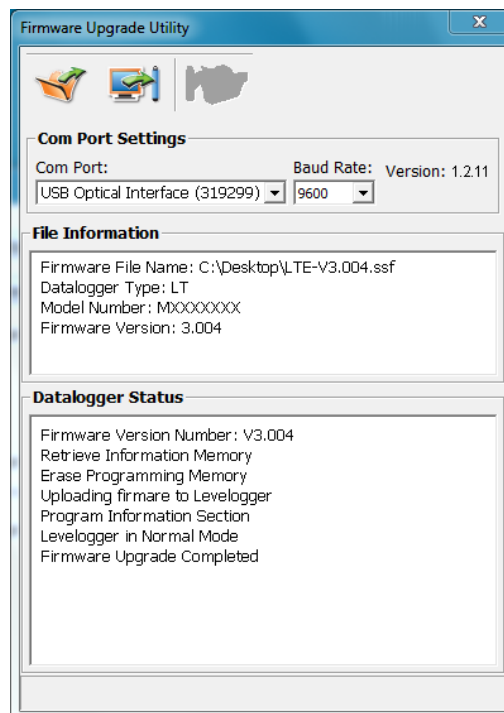

Figure 12-1
- 5) If a communication error occurs and is indicated in the 'Datalogger Status' section (Figure 12-1) either before the "Verified Program Checksum" message or after the "Program Information Section", then restart the upgrade process.